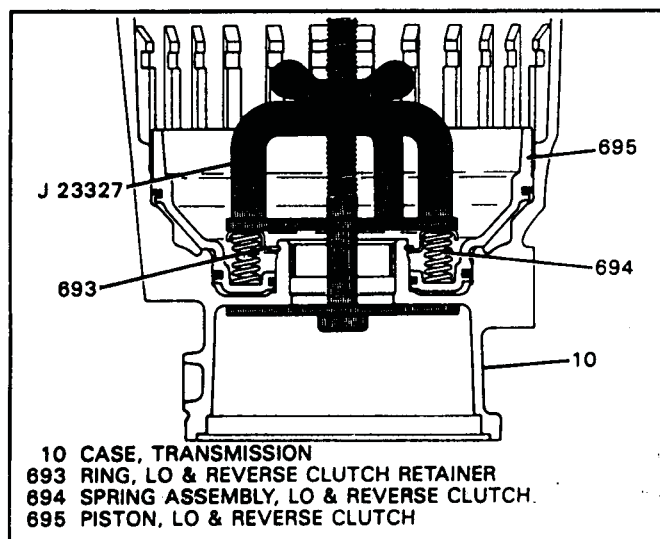

Figure 74
2. Install clutch spring compressor, as shown in Figure 74.